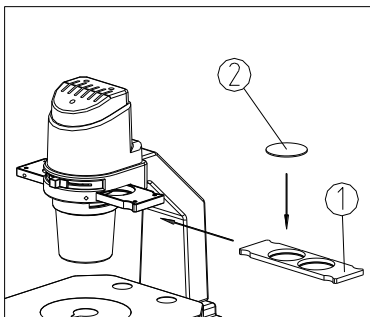

Fig. 7
Pull out the install hole of the color filter flashboard ① when assembling the color filter. Or pull out the whole color filter flashboard, and put the color filter ② into the install hole of the color filter flashboard ① as shown in the figure, making it be horizontal in the bottom with no decline. Then insert the color filter flashboard into the color filter slot of the illumination holder. (See Fig.7)